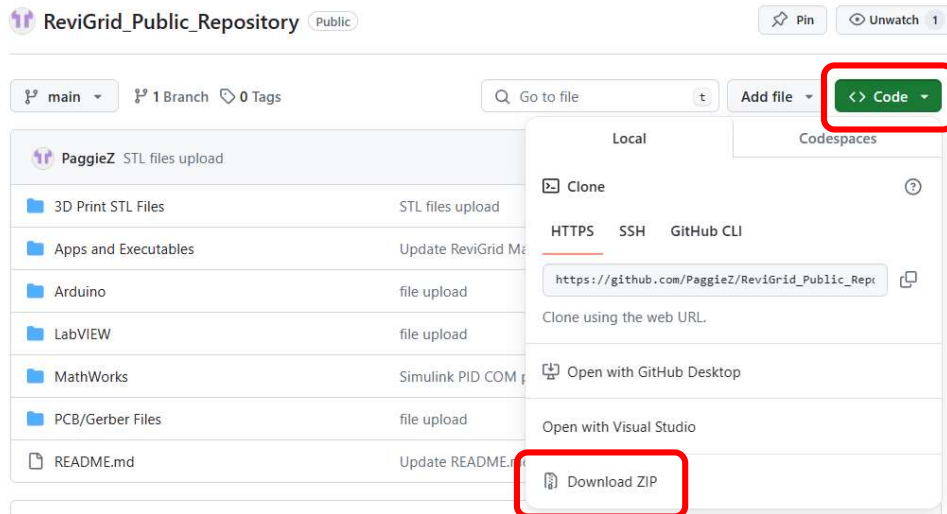

Figure 1.2 Download ZIP icon on GitHub Repository
- Click on the <> Code icon  and select *Download ZIP*  as shown in Figure 1.2.